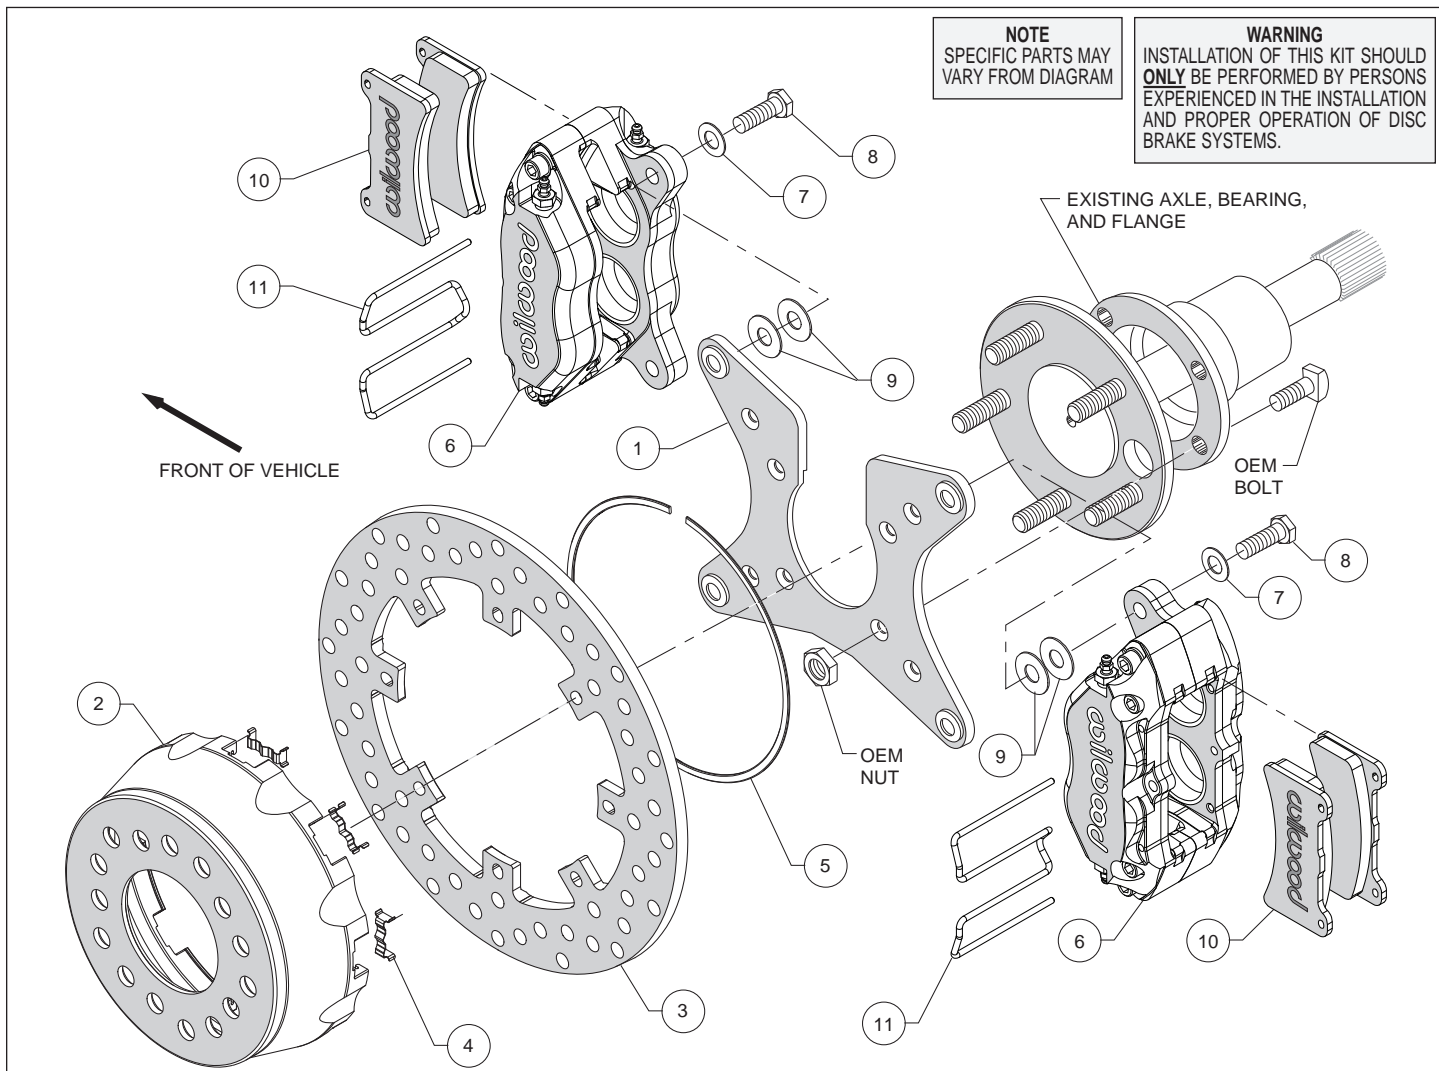

Figure 1. Typical Installation Configuration
Assembly Instructions (numbers in parenthesis refer to the parts list and Figure 1 on the preceding pages): **CAUTION:** All mounting bolts must fully engage clinch nuts. Be sure to check that all bolts are either flush or protruding through flanged side of clinch nut after shimming, Figure 5.
- Install the caliper mounting bracket (1), with the slot for the axle pointing upward, to the housing flange using the OEM bolts and nuts, as shown in Figure 1 and Photo 1. Ensure that the caliper mounting ears on the bracket are oriented fore and aft on the car, with the heads of the clinch nuts facing outboard, Photo 1. Apply red *Loctite*[®] 271 to the OEM bolt threads and torque to OEM specifications.
- Insert the dynamic mount wear plates (4) into the slots in the hat (2) making sure the tabs snap in place, Photo 2. Orient the rotor (3) as shown in Figure 1 and Photo 3, with the flush mount tab side facing the hat. Attach the rotor to the hat using snap ring (5) by pushing down on the rotor and installing the ring into the groove in the hat, as shown in Photo 4. Ensure that the ring is fully engaged in the groove.
- Align the correct hole pattern in the hat (2) with the axle stud pattern and slide the hat/rotor assembly onto the axle hub. **NOTE:** The hat must fit flush against the axle flange or excessive rotor run out may result. Install three lug nuts (finger tight) to keep the hat/rotor in place while continuing with the installation. **NOTE:** The hats included in this brake kit are drilled for .68" diameter wheel studs.
- **NOTE:** Please reference the caution statement at the beginning of the assembly instructions. Mount one caliper (6) onto the mounting bracket (1) using bolts (8) and washers (7), as shown in Figure 1. Initially place two .035" thick shims (9) on each bolt between the caliper and the bracket, Photo 5. Temporarily tighten the mounting bolts and view the rotor (3) through the top opening of caliper. The rotor should be centered in the caliper, Photo 6. If not, adjust the caliper by adding or subtracting shims between the bracket and the caliper. Always use the same amount of shims on each of the two mounting bolts. **NOTE:** The end of each bolt must be flush with or slightly protruding from the head of the clinch nut. If necessary, place spare shims between washer and caliper mounting ear to achieve the proper clinch nut engagement, as shown in Figure 5. Once the caliper alignment and clinch nut engagement are correct, remove the bolts one at